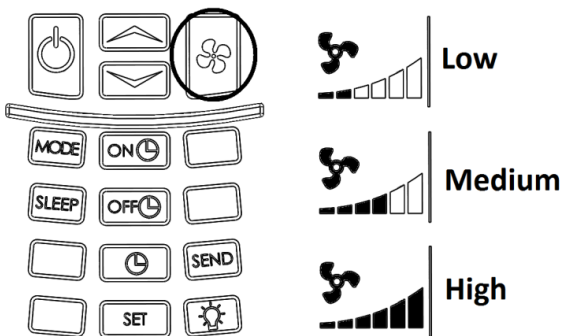

Figure 19 - Change fan speed
- Press the FAN button to cycle through High – Medium – Low fan speeds. Figure 19. Note air flow as the speeds change.
- Press FAN SPEED (Figure 25 – Button #10) until the required speed is selected (Figure 19)